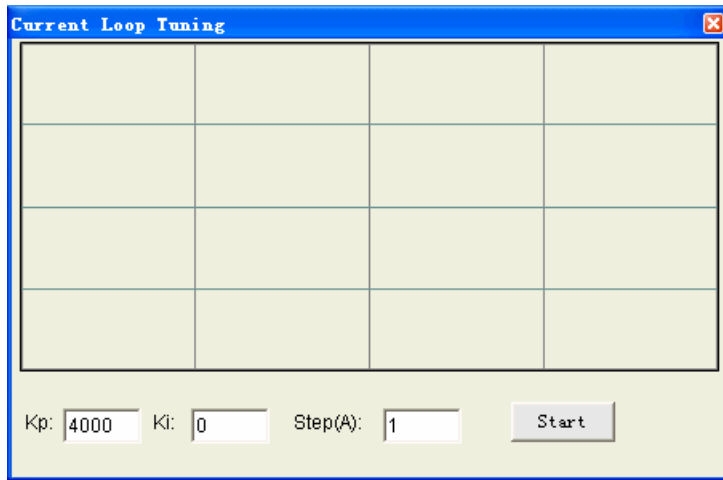

Figure 3-1: Initial value for  $K_p$ ,  $K_i$  and Step for current loop tuning
**Step 1:** See figure 3-1. Set test **Step** 1 Amp and begin the tuning with small **Kp** and zero **Ki**. Here we give **Kp** 4000. Please hit the “Enter” key after entering in the number.